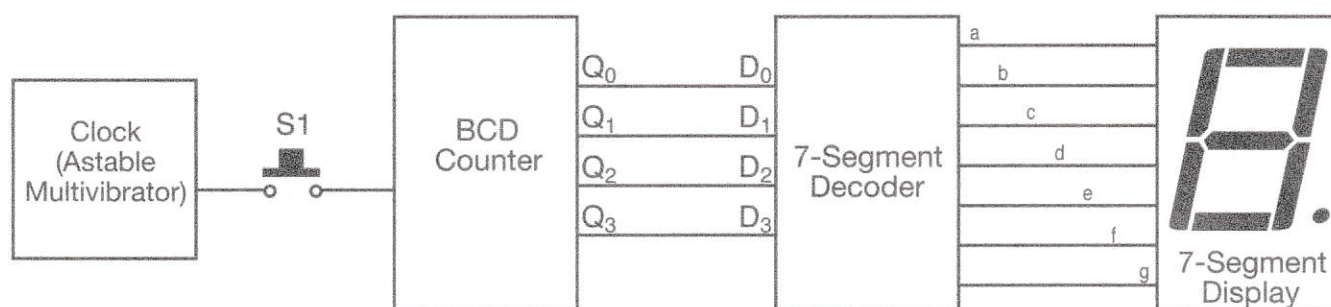

Figure 1 - Block Diagram of Lucky Number Generator
Figure 1 shows the block diagram of the Lucky Number Generator. The clock generates pulses that are sent to the normally open pushbutton S1. When S1 is pressed, the clock pulses reach the input of the BCD counter, causing the counter to begin the BCD counting process between 0000 (0) and 1001 (9) on its outputs Q₀ to Q₃. These BCD numbers are applied to the inputs of the 7-segment decoder (D₀ to D₃), which decodes them and drives the display to show these numbers in decimal form. As the speed of the clock is relatively fast, you will not be able to see the individual numbers when the counter is working, you will just see the segments of the display blinking. When pushbutton S1 is released, the clock pulses do not reach the